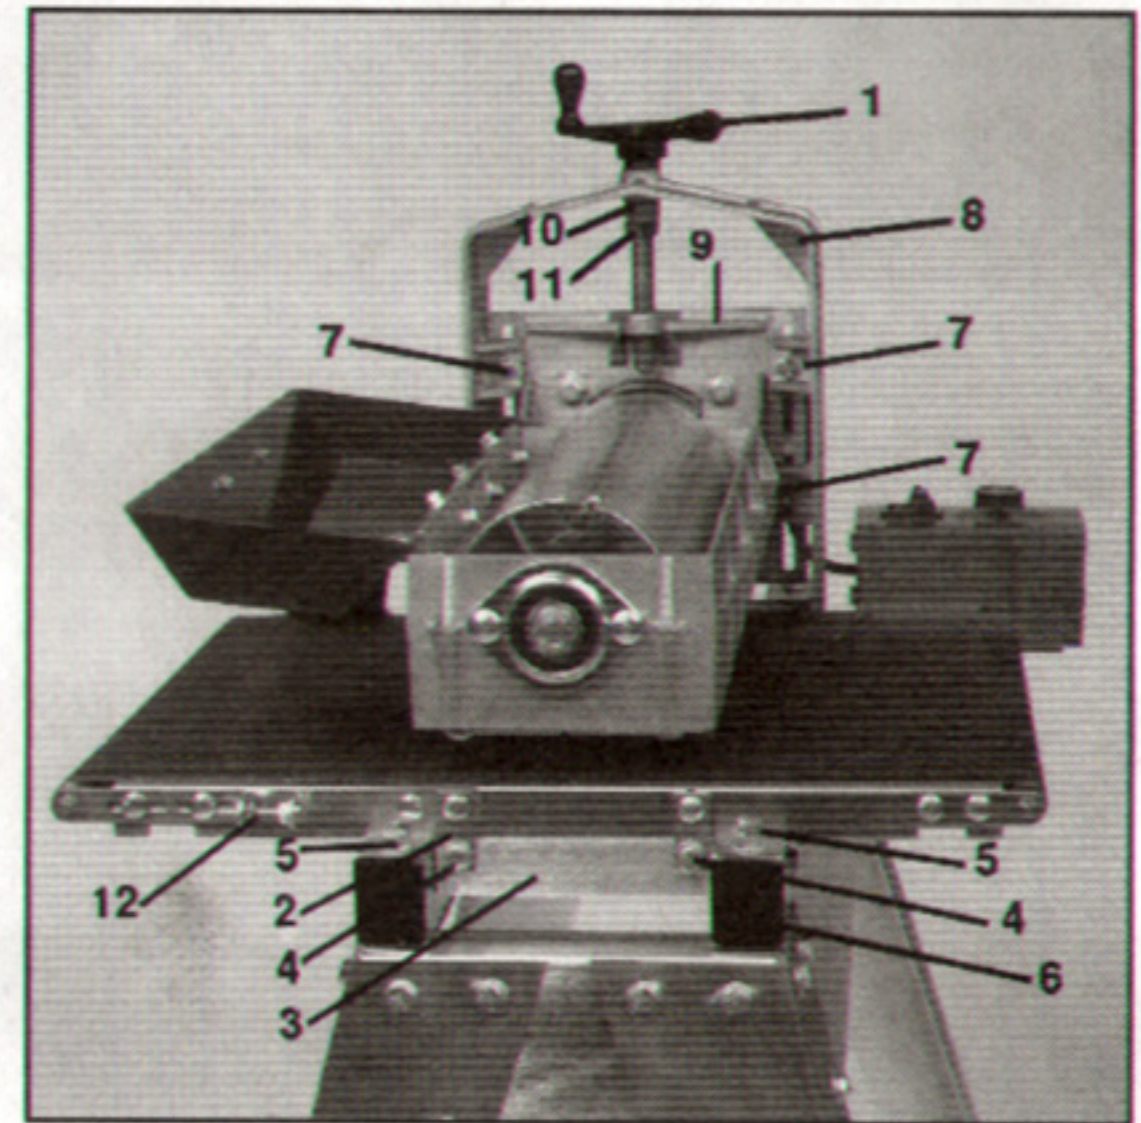
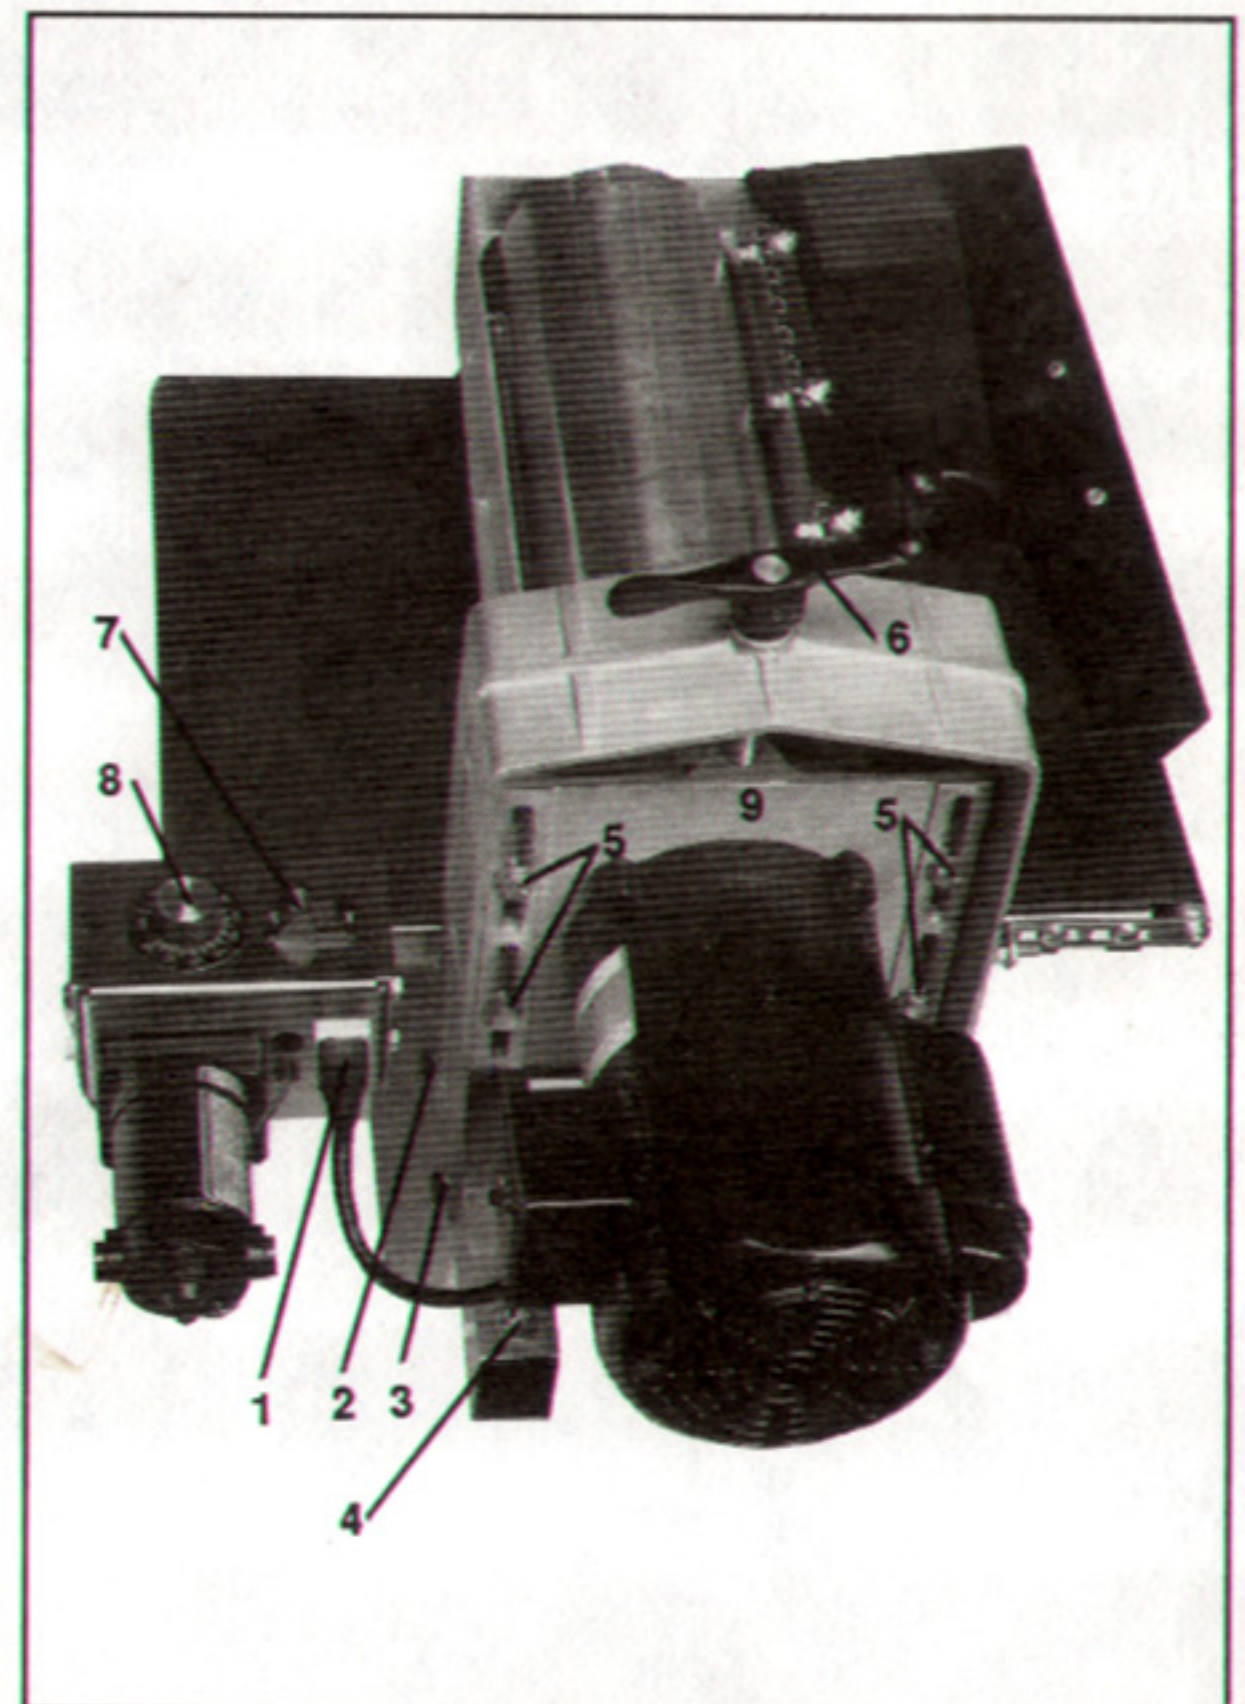
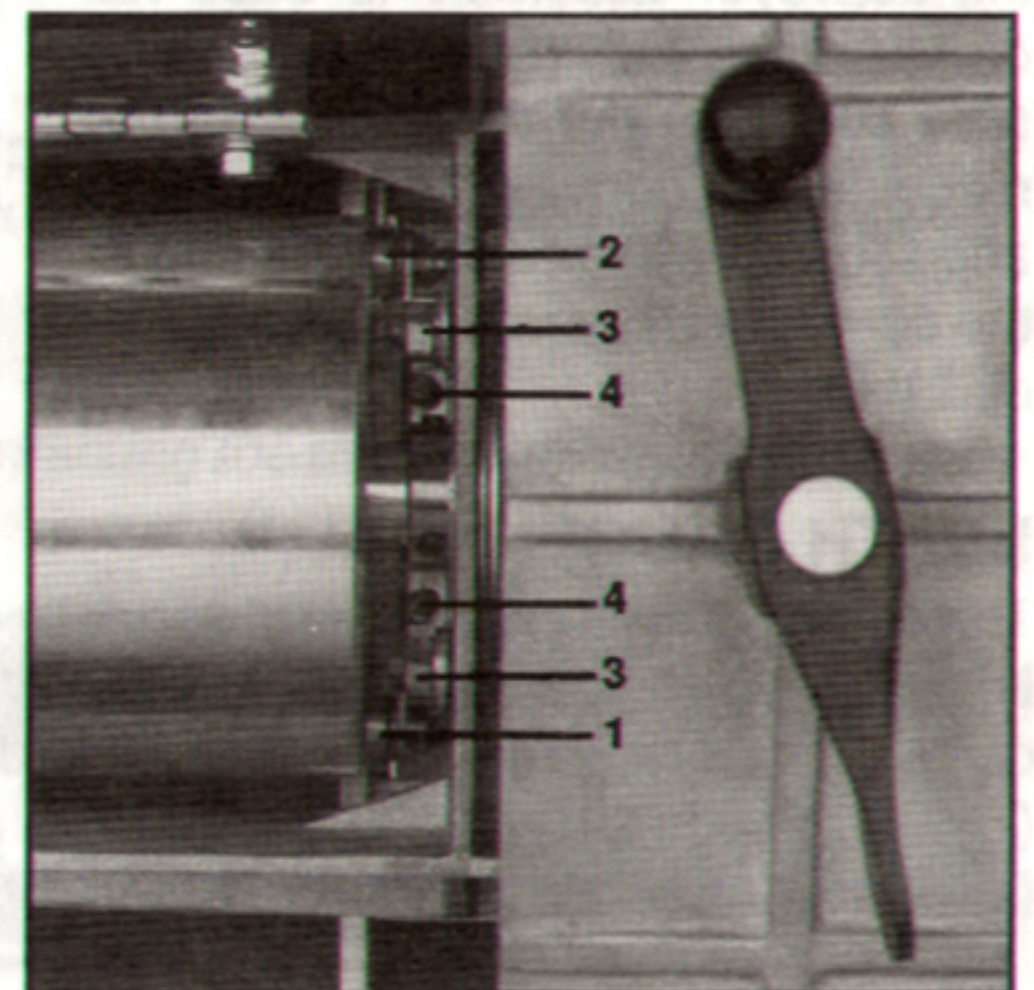

Figure 1
Figure 2
Figure 4
ASSEMBLY (See Fig. 1)
To assemble, raise the drum to its highest elevation by turning the height adjustment handle (1) in a clockwise direction. Install the power feed conveyor on the machine base rails (5) so that the conveyor mounting brackets (2) are located to the outside of the base rail cross brackets (3). With the bracket holes aligned, install four 5/16 hex head bolts (4) and 5/16 square nuts (provided). Connect motor cord plug (1) (see Fig. 2) into control box receptacle.
The PERFORMAX 16-32 sander may be operated by simply resting it upon a table or bench. Mounting holes are provided in the machine base rails (5) (Fig. 1) and (4) (Fig. 2) for permanent, secure mounting to stand or bench.
The drum height and depth of cut is controlled by the height adjustment handle (1) (Fig. 1). Turning the handle in a clockwise direction raises the drum.
1. Adjust all four Gib screws (5) (Fig. 2) by first tightening Gib screws then loosening 1/8 to 1/4 turn. If Gib screws are set too tight, height control will not operate easily. If Gib screws are too loose, excessive deflection of the outboard end of the drum carriage will result. Apply lubricant to front and rear portions of motor mount (9) (Fig. 1 & 2).
NOTE: The Gib screws turn hard and may require the use of vise-grips on the screwdriver shank to adjust. If necessary, in order to turn Gib screws, loosen four lock nuts (7) (Fig. 1) on the front side of housing (8) (Fig. 1). Adjust Gib screws and hold in position while re-tightening lock nut.
2. Push height adjustment handle (1) (Fig. 1) downward to set firmly on housing (8) (Fig. 1). Loosen set screw (10) (Fig. 1) of shaft collar (11) (Fig. 1). Slide shaft collar upward against housing so that all vertical free-play of height adjustment screw is eliminated. Lubricate around washers beneath handle and above collar.
2. Reach under the drum carriage and lightly raise infeed tension roller (1) (Fig. 4) so that the tension roller does not interfere with the thickness gauge measurement.
3. If drum alignment is necessary, loosen bolts (2 & 3) (Fig. 2). This allows entire drum carriage and housing to pivot on bolt (2). Place the wood thickness gauge under the outer end of the drum and place your left hand on top of the outer end of the drum to hold it securely on the wood gauge. Turn height adjustment handle clockwise to raise inboard end of drum or counter-clockwise to lower inboard end of drum. A 1/4 turn of the handle will raise or lower the inboard end of the drum approximately 1/64". Re-tighten bolts (2 & 3) (Fig. 2). Re-check alignment by repeating Step 2 above. If necessary repeat Step 3.
1. Loosen all four bearing bolts (3) (Fig. 4). (**NOTE:** Fig. 4 only shows inboard end of drum. Adjustments must be made on both ends of drum.) This will allow both tension rollers to drop to their lowest position. Lower sanding drum to where it contacts the conveyor bed. Raise the sanding drum one turn of the height adjustment handle. Re-tighten bearing bolts (3) (Fig. 4). This procedure will position both tension rollers 1/16" below the bottom of the sanding drum.
- A. Loosen tension roller spring retaining screws (4) (Fig. 4).
Repeat Step 1 (see Tension Roller Alignment) except raise the sanding drum only 1/4 turn of the height adjustment handle (1) (Fig. 1). If both tension rollers are causing snipe then tighten all four bearing bolts (3) (Fig. 4) at this position. If only outfeed tension roller causes snipe, only tighten rear (outfeed) bearing bolts on each end of drum at this position, then raise sanding drum another 3/4 turn of the handle. Press infeed tension roller down to rest on conveyor bed and tighten front (infeed) bearing bolts at this position. This process sets the tension roller assembly at an angle providing less tension roller pressure on the outfeed roller.
Adjust the take-up screw nuts (12) (Fig. 1) on both sides of the conveyor to obtain approximately equal tension on both sides of the conveyor and to insure a taut conveyor belt. If the conveyor belt can be stopped by hand pressure applied directly to the top of the conveyor bed, the belt is too loose. Insufficient belt tension will cause slippage of conveyor belt on the drive roller during sanding operation. Excessive belt tension can result in bent rollers, premature wearing of bronze roller bearings, or premature wearing of conveyor belt.
After proper belt tension is obtained, turn the conveyor unit on, and run at fastest speed setting. Watch for a conveyor belt tendency to drift to one side of the conveyor. To adjust the belt tracking without changing belt tension, slightly adjust take-up screw nuts (12) (Fig. 1) on both sides of the conveyor to increase the roller center distance on the side the belt is drifting toward and reduce the roller center distance on the opposite side. Adjustment should be on the order of 1/4 of a turn of the take-up screw nuts (12) (Fig. 1), then allow time for the belt to react to the adjustment.
To replace conveyor belt, raise drum to highest position. Unplug machine from wall outlet and unplug motor cord from control box receptacle (1) (Fig. 2). Adjust conveyor take-up screws (12) (Fig. 1) to relieve belt tension. Remove four bolts (4) (Fig. 1) attaching conveyor assembly to base rail cross brackets (3) (Fig. 1). Lift up and slide conveyor out to the side of the machine. Set conveyor on motor side and slide conveyor belt off the end of the conveyor. Reverse process for installation.
MACHINE CONTROLS (See Fig. 2)
Height Adjustment Handle: (6) (Fig. 2) Raises or lowers sanding drum to select depth of cut.
Motor Starter Switch: (7) (Fig. 2) Starts and stops drive motor and sanding drum.
Feed Rate Control Knob: (8) (Fig. 2) Starts feed conveyor and selects feed rate from 0 to 100% (0-10 ft./min.)